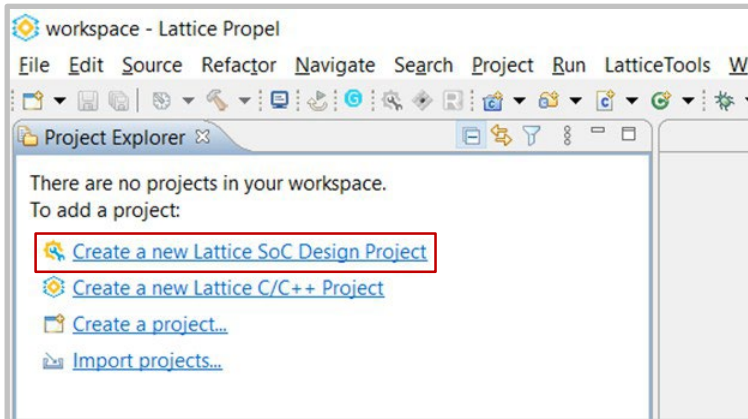

Figure 5: Creating a new Propel Design Project
- From the **Project Explorer**, select **Create a new Lattice SoC Design Project**, see **Figure 5**.